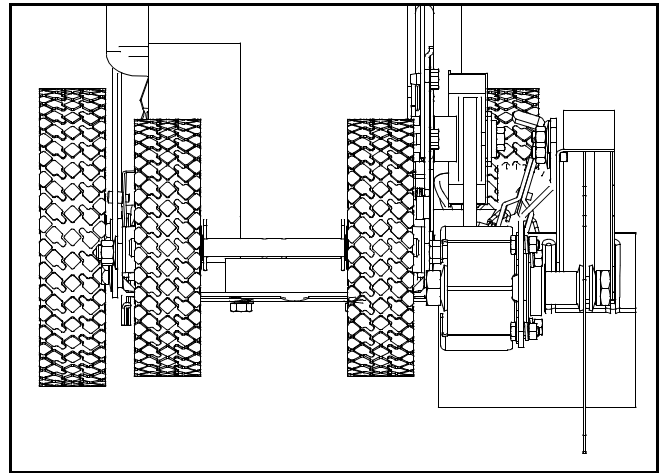

Figure 11
Placing the blade angle adjustment lever in the second notch from the right will put the spindle assembly at a 90° angle for vertical edging as illustrated in Figure 11.
- Place the blade angle adjustment lever in the edging position. Refer to Figure 11.